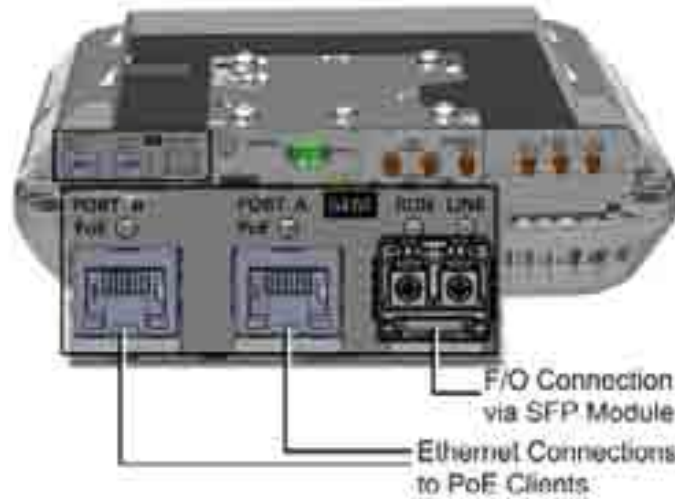

Figure 5-83. GEM Module Interfaces (SFP Module Shown without Adapters)
- B. Connect fiber to SFP module ports as follows (see Figure 5-83):